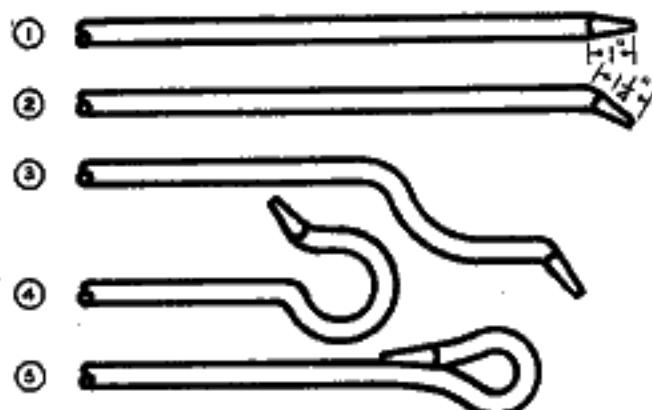

FIG. 276.—Steps in scarfing and preparing to weld an eye on the end of a rod.
**317. Welding an Eyebolt.**—To make a welded eyebolt, a short, blunt, square-pointed scarf is made as shown in Fig. 276. The welding heat is